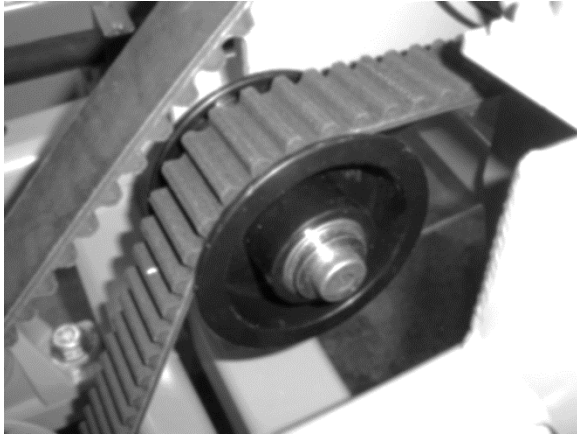

Figure 3—View showing the tensioner pulley properly installed.
3. Attach the new pulley (P2B) to the mounting bracket using the provided fastener. See **Figure 3**.